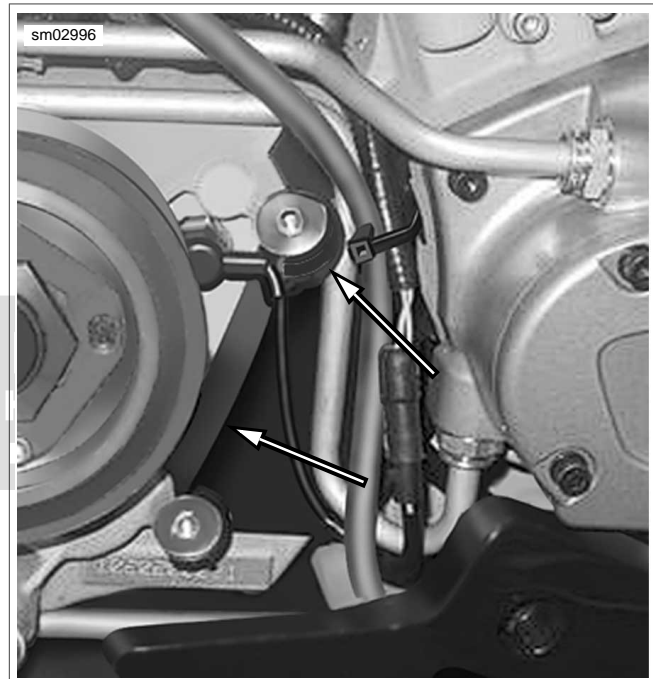

Figure 3-20. Wire Guard
- e. See Figure 3-20. Wire guard located under the sprocket cover.